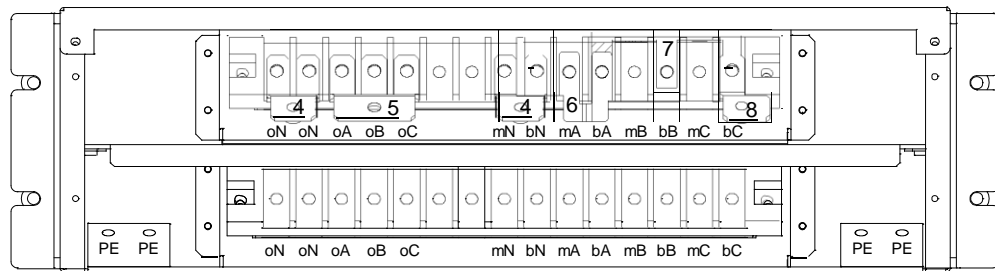

Figure 2-9 Shorted copper bars connection for single POD user terminal block
1. Short bA, bB and bC terminals of the single POD user terminal block using the shorted copper bar 7, short oA, oB and oC terminals using the shorted copper bar 5, and short mA and bA terminals using the shorted copper bar 6, then short mN and bN terminals, two oN terminals respectively using two shorted copper bars 4, as shown in Figure 2-9.
2. Connect the shorted copper bar 8 to one end of the shorted copper bar 7 (see Figure 2-9), and connect the live line (input phase A) to the shorted copper bar 8.